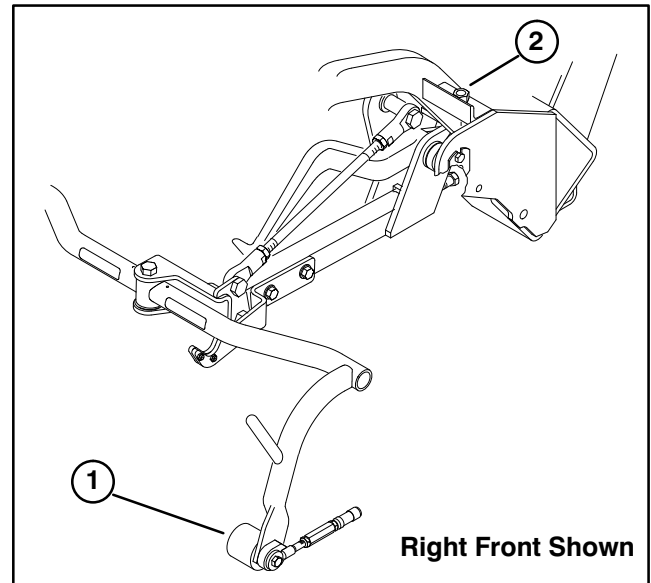

Figure 2
C. If an adjustment is required, loosen jam nut on carrier frame stop screw (Fig. 2) and rotate screw up or down to raise or lower carrier frame. Tighten jam nut after adjustment is attained.